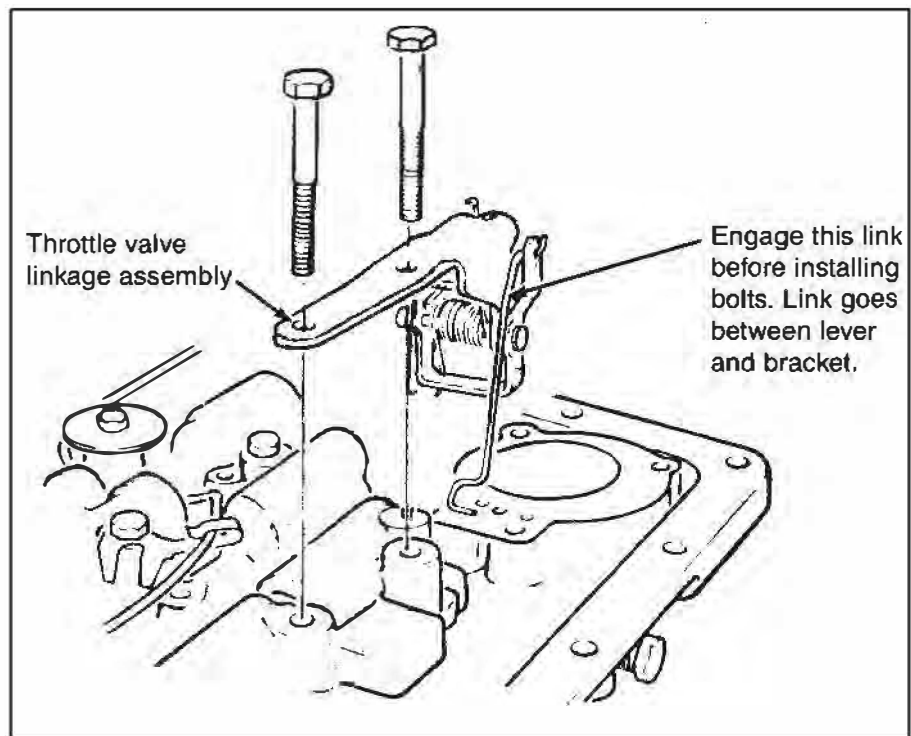

Figure 12
**STEP 16. Street Only;** Remove the spring and piston from the 1-2 accumulator housing (See Fig. 12.) Install both the **BLUE** and the **RED** spacers over the pin, then the piston (notice orientation.) No spring is used for **Street** level performance.
linkage onto the valve body as shown (See Fig. 12.) Engage the cable link with the large lever first. Hold the large lever up and the smaller one down. Then slip the assembly into position aligning it with the hold down bolt holes and engage the roll pin in the slot on the bracket. Insert bolts and tighten to 11 NM (8 Ft. Lb.) then make sure large lever operates freely. **IMPORTANT NOTE: The TV cable MUST be reset before operating vehicle refer to**